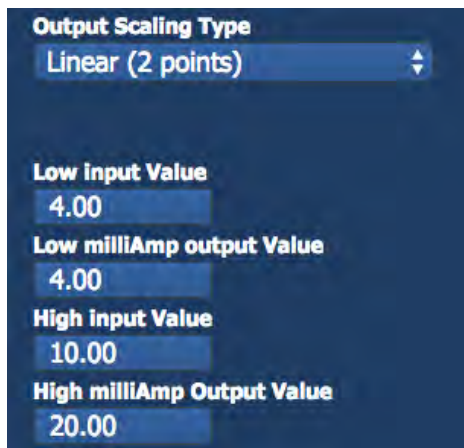

Figure 7-6 – In this example for linear (2 points) scaling a pH probe value of pH 4 outputs 4 mA and pH 10 outputs 20 mA.
2. The 4-20 mA output is scaled so that the process value maps linearly into any range of 4-20 mA output. Figure 7-6 shows the example of a pH probe for which a pH value of 4.0 outputs a current of 4 mA and a pH value of 10 outputs a current of 20 mA. This scaling is useful for expanding a limited range in process values to fit the entire 4-20 mA range.